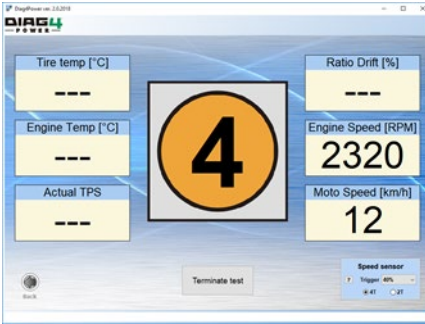
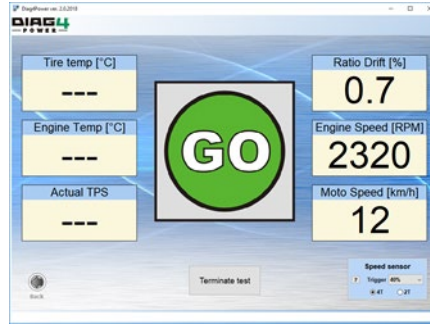

Fig. 14 – Symbol for countdown
Fig. 15 – Symbol for maximum speed
- The measurement starts by a countdown (see Fig. 14), followed by the **GO** command (see Fig. 15)